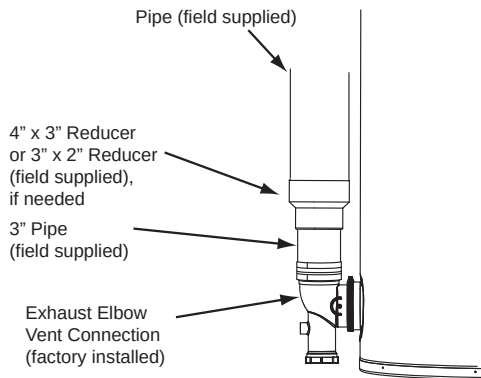

Figure 17. Vent (Exhaust) Connection
11. If installing two- or four-inch pipe, transition to three-inch pipe at the exhaust elbow on the water heater as shown in **Figure 17** (page 23). The field installed three-inch pipe between the exhaust elbow and the reducer coupling should be 18 inches (45 cm) or less in length.
12. If installing two- or four-inch vent pipe, transition to three-inch pipe at the exhaust elbow on the water heater as shown in **Figure 17** (page 23). The field installed three-inch pipe between the exhaust elbow and the reducer coupling should be 18 inches (45 cm) or less in length.